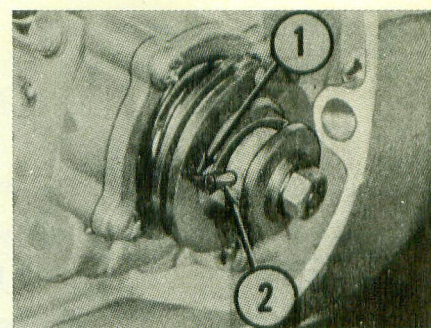
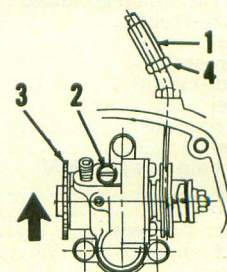

Fig. Y10-5—Mark (1) and guide pin (2) should line up with engine at idle.
Fig. Y10-6—Arrow stamped on starter plate (3) will indicate direction of rotation.
automatic oil metering system on all "MX" models. Oil tank should not be allowed to run dry and only 2-stroke, air cooled, engine oil should be used. Oil pump must be bled if allowed to run dry. To bleed pump, remove bleeder screw (2—Fig. Y10-6) and turn starter plate (3) upward while holding throttle fully open. When air is no longer present in oil coming from hole, replace screw. Oil pump adjustment should be checked with throttle fully closed. Mark on pump adjustment pulley (1—Fig. Y10-5) and guide pin (2) should align with throttle closed. Adjust pump by turning cable adjusters.